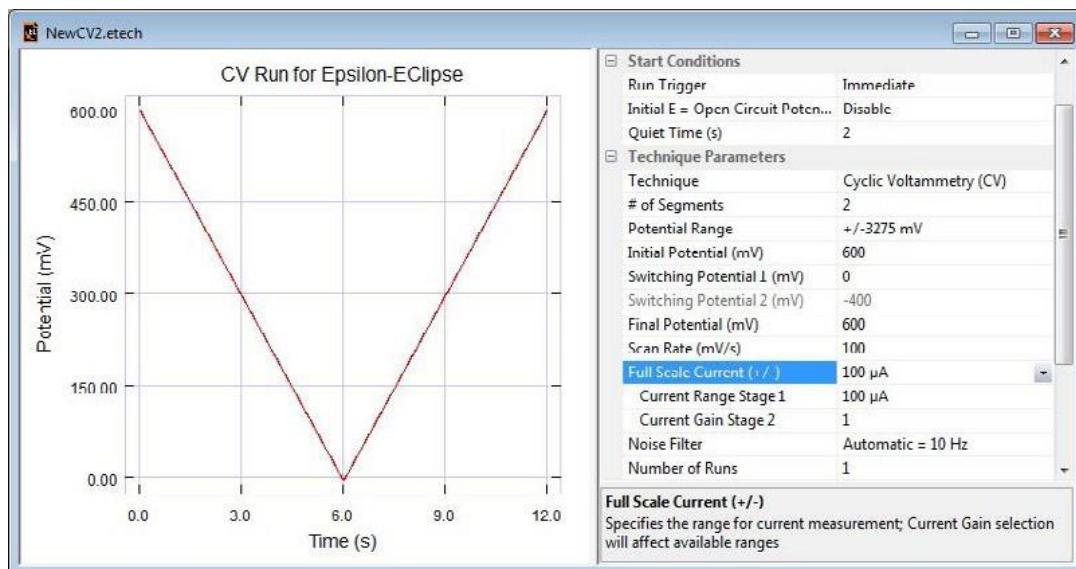

Figure 2 - Editing the .etech for Cyclic Voltammetry
4. Select **Cyclic Voltammetry**. The **new.etch** file can now be edited. Enter the values shown in **Figure 2**. Note that **Switching Potential 2** is not required since there are only 2 segments (**Initial Potential to Switching Potential 1 to Final Potential**). Various experimental data can be entered into the **Experimental Conditions** section. These notes will also be saved when the experimental data is saved. Once these changes have been entered, an experiment using these parameters can be run by clicking the **RUN** button. An experiment can be run using either **Run** in the **Experiment** menu, or the **RUN** icon on the Tool Bar. This icon will change to **STOP** during the experiment, and can be used to abort the experiment.
When opening a file, all stored technique parameters are available on the right side of the graph (Fig2). Upon opening a legacy file, the experimental data is displayed. The technique windows can be dragged to a different position within the main window. Multiple windows can be tiled vertically, horizontally, or cascaded using the appropriate options in the Window menu.